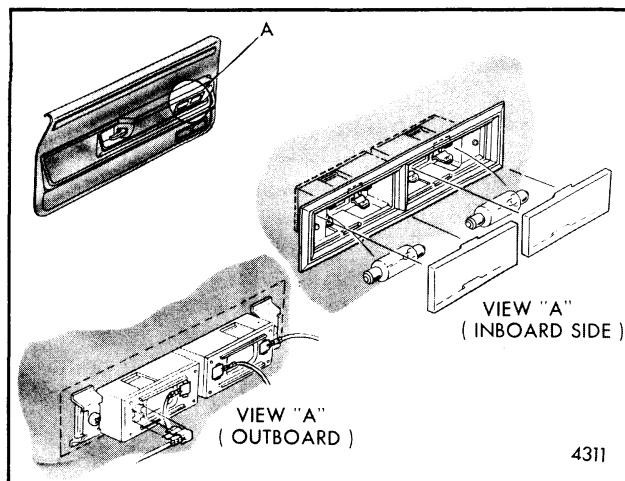

Fig. 5-15-Courtesy Lamp Removal and Installation
**NOTE:** On styles with courtesy lamps located in lower trim assembly, disconnect wire harness at lamp assembly (Fig. 5-15).